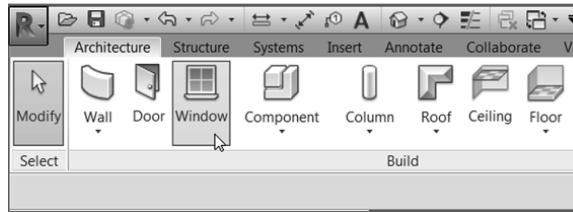

FIGURE 2.77: Adding a window is the same as adding a door.
1. On the Architecture tab, click the Window button, as shown in Figure 2.77.